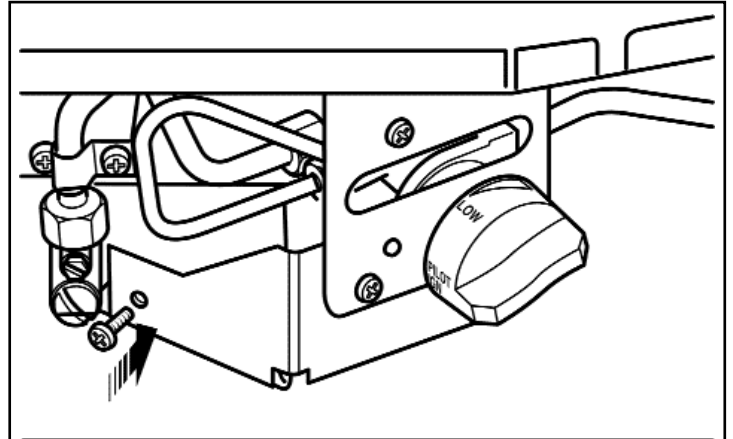

Figure 15. Locating the burner
- Place the burner assembly in position against the convector box bottom location bracket (See figure 15). The rear support leg should be located on top of the foam seal in the base of the convector box.